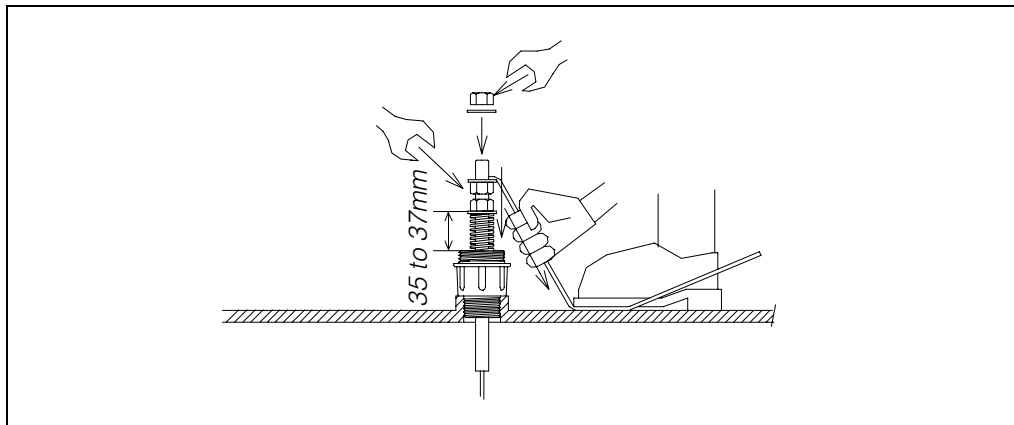

Figure 5-3: Tensioning wire installation
7. Pull the end of the tensioning wire as tight as possible by hand and foot (see Figure 5-3).